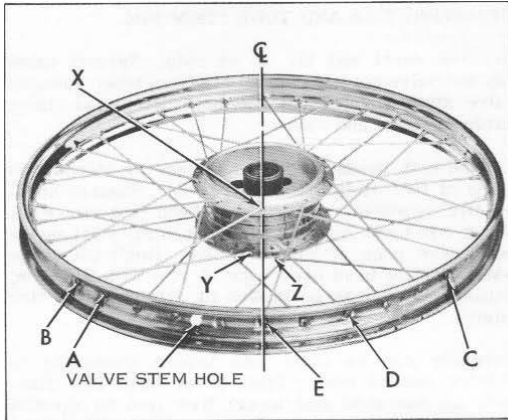

Figure 2.14. Inserting Spokes in Wheel Rim
9. Place wheel rim over hub assembly and line up imaginary centerline two spoke holes to right of valve stem hole. See Figure 2.14.
10. Insert spoke (X) in wheel rim spoke hole (A), three holes to left of valve stem hole and start nipple. See Figure 2.14.
11. Insert spoke (Y) in wheel rim spoke hole (B), four holes to left of valve stem hole and start nipple. See Figure 2.14.
12. Insert spoke (Z) in wheel rim spoke hole (C), seven holes to right counterclockwise from valve stem hole and start nipple. See Figure 2.14.